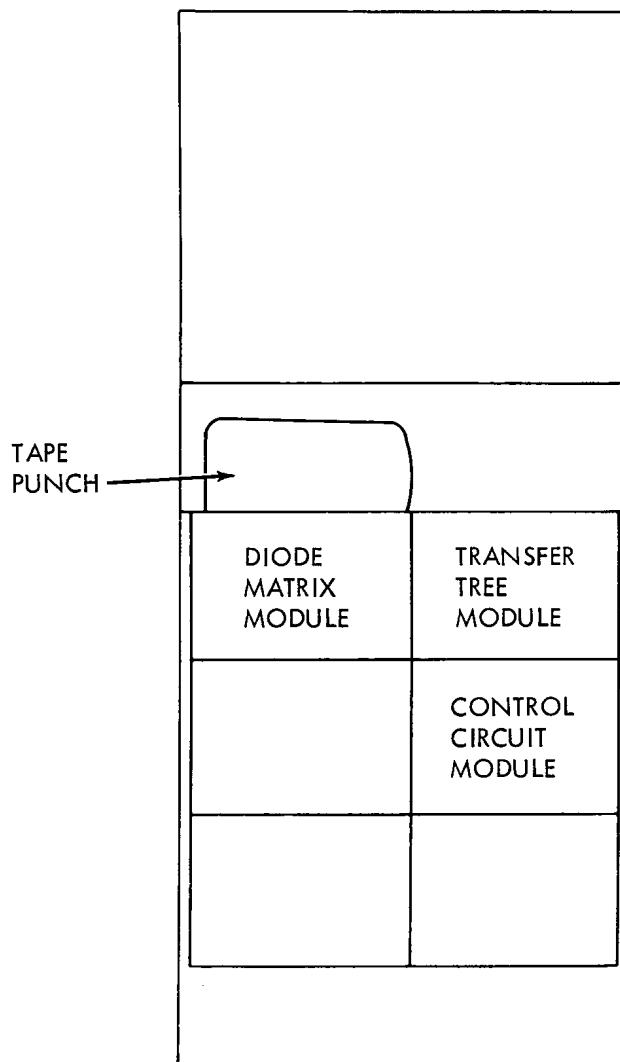

Figure 6 - Module Installation
- (a) Modules are in their correct locations (see Figure 6).